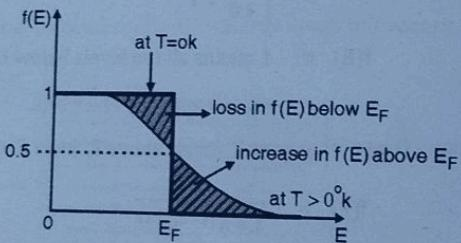

Fig. 1.1.3 : Electron occupancy at $T > 0^\circ\text{K}$
- In a simple way one can understand that, what increase in $f(E)$ at $T > 0^\circ\text{K}$ above $E = E_F$ we get is equal to reduction in $f(E)$ below $E = E_F$. This is shown as below in Fig. 1.1.3.